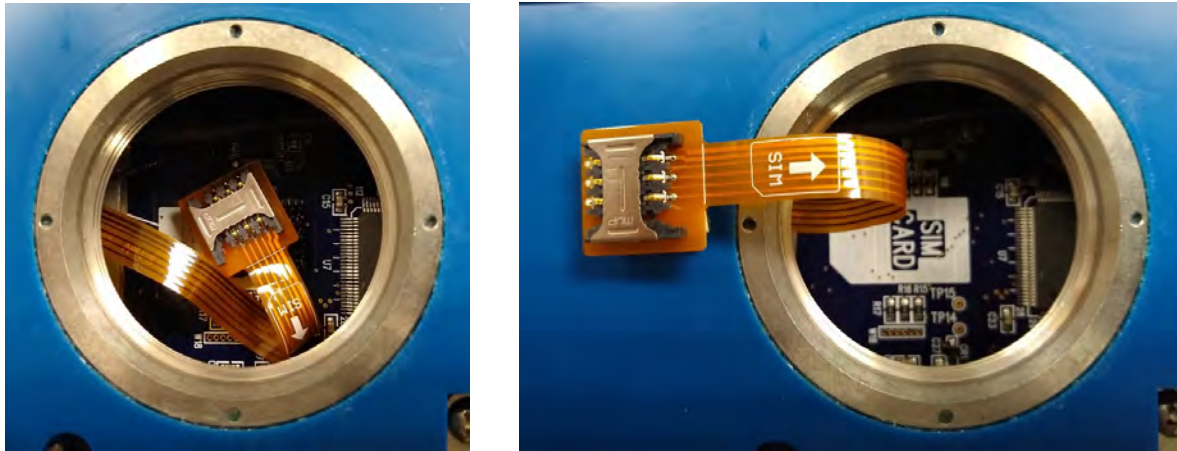

Figure 4-3 SIM card extender and Micro SIM adapter
2. Pull up on the adapter and pull the ribbon cable out through the hole (Figure 4-3).